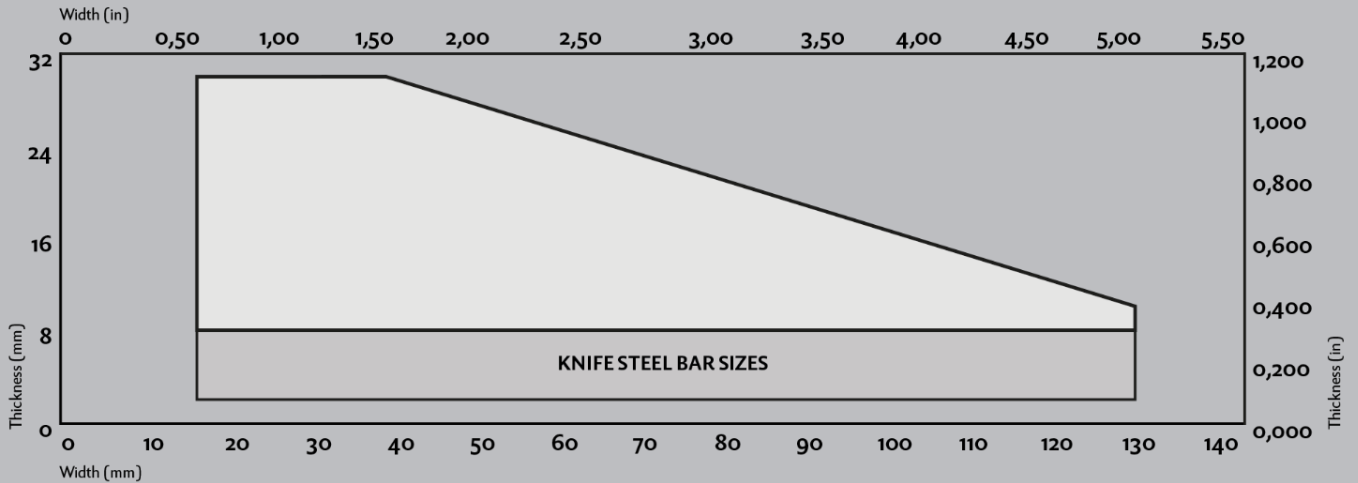

Figure 2: Size range
- Flat bars in dimensions shown in below chart, see fig. 2.